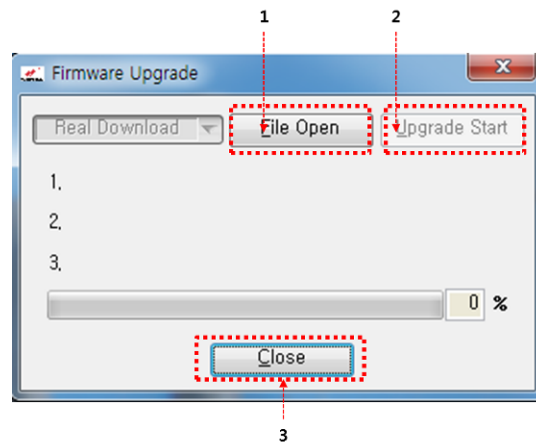

Figure 7-1: Firmware Upgrade Progress Window File Open Tab
2. Click **Firmware Download** in the IP menu located on the left side of the Control page. The Firmware Upgrade progress window, Figure 7-1, displays.
3. Click the **File Open** tab in the Firmware Upgrade progress window to display it, Figure 7-1.